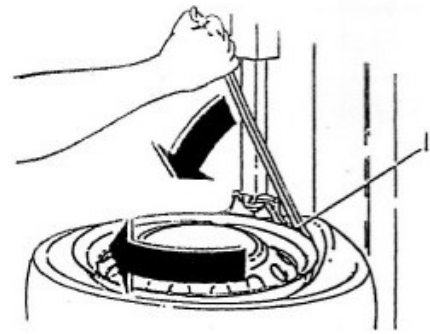
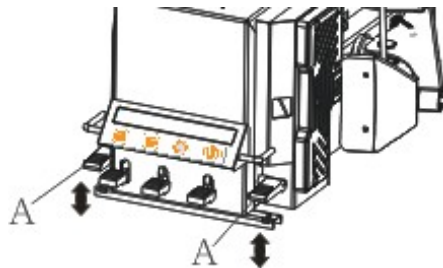

Fig. 17
Fig. 19
- Place the tire lever between the tire and the front part of the mounting head now place the edge of the tire over the mounting head (Fig. 17).
- With the tire lever in this position (Fig. 17), rotate the turntable clockwise by pedal A(Fig. 19), keep the pedal depressed until the tire is completely detached from the rim.
- Keeping the tire pressed down into the rim with your hands, press pedal A (fig. 19) to rotate the turntable clockwise. Continue this until the tire is fully seated in the rim (fig.22A).